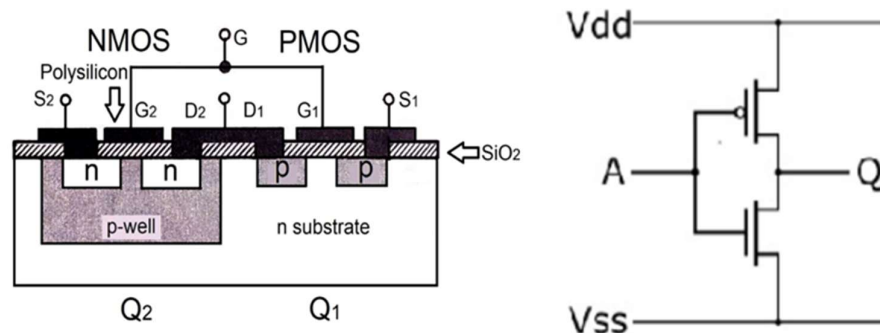

Figure 8 : CMOS Invertor {Left – Cross section; Right – Circuit}
For second task we must make a layout for CMOS inverter circuit cross- section shown by Figure 8 (Left), gate and drain of both PMOS and NMOS are connected to a common gate and drain terminal respectively.
Figure 8 (Right) shows the circuit diagram of a CMOS inverter, it contains a PMOS and NMOS in series, with shorted gates where input (A) is applied, output (Q) is taken from the connected drains of PMOS and NMOS. V_{dd} and V_{ss} are supplied voltage to provide DC bias to circuit at source of each MOSFET.